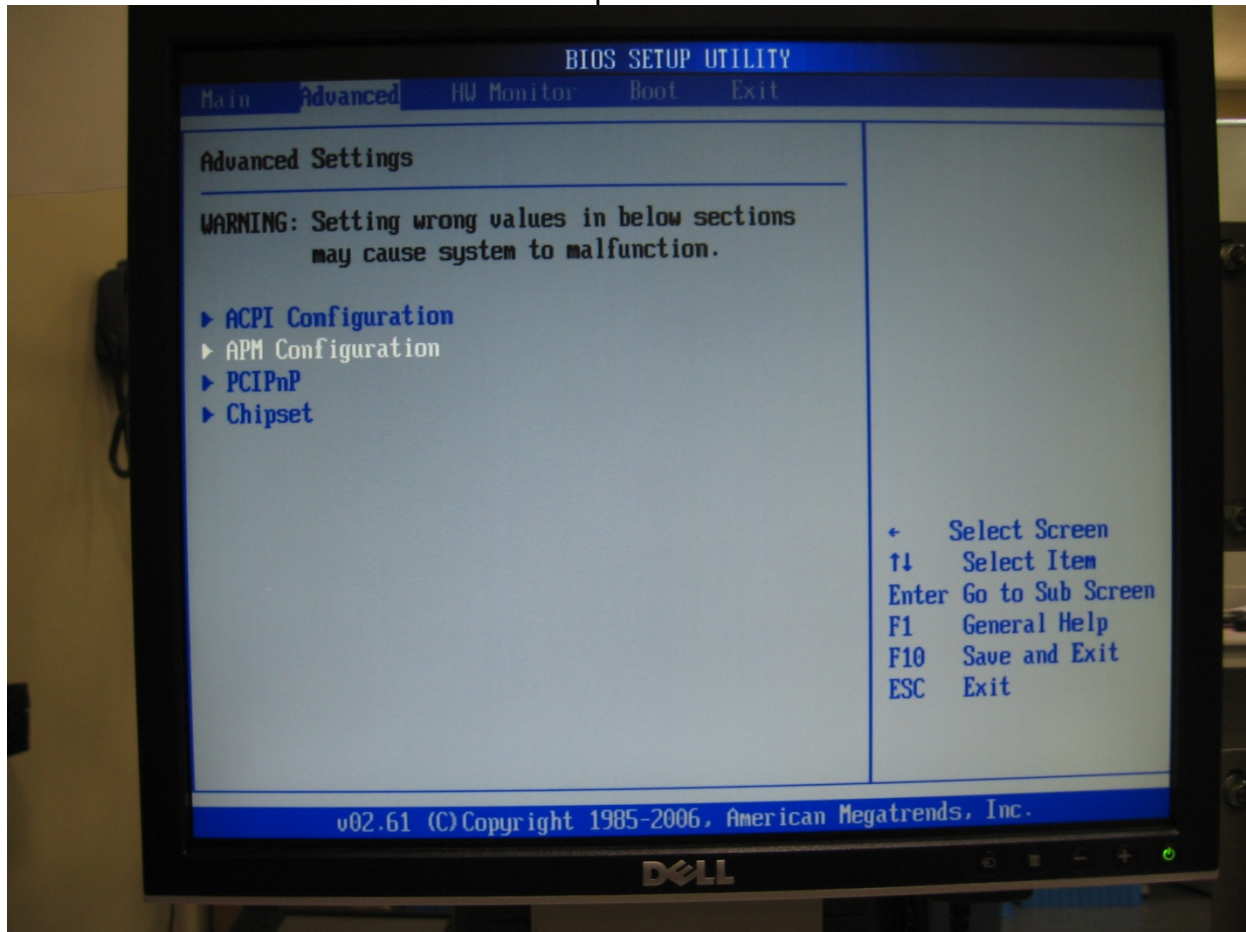
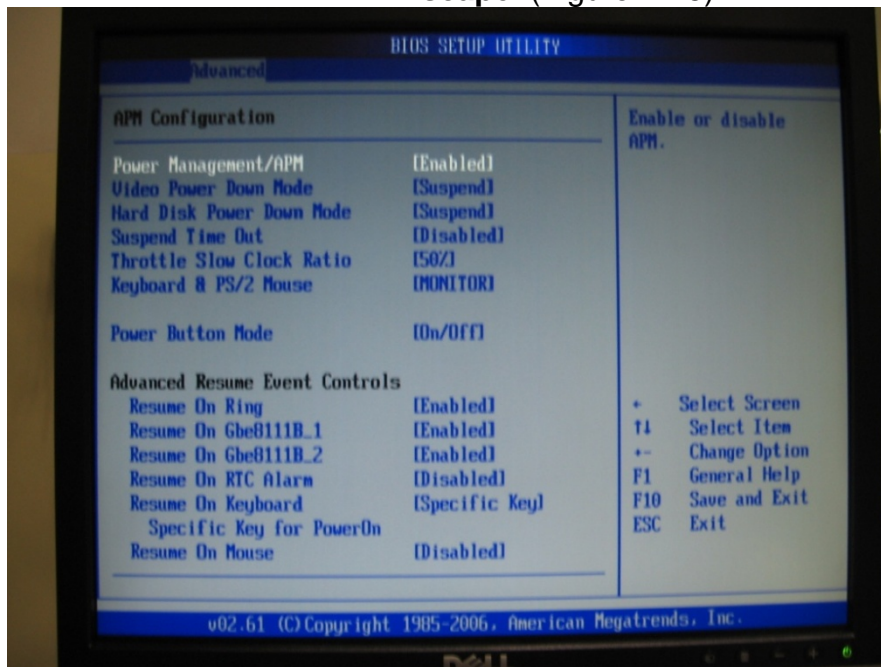

Figure 7-14 APM Configuration Screen.
Figure 7-15 APM Default Settings Screen.
4. On the **Advanced** options screen, scroll down and select **APM Configuration**. Press **Enter**. (Figure 7-14). Figures 7-15, 7-16 show the various default settings. Leave on Default then press **Escape** to return back to the **Advanced** options screen.
5. Default settings for APM Configuration, Press **Escape**. (Figure 7-15).